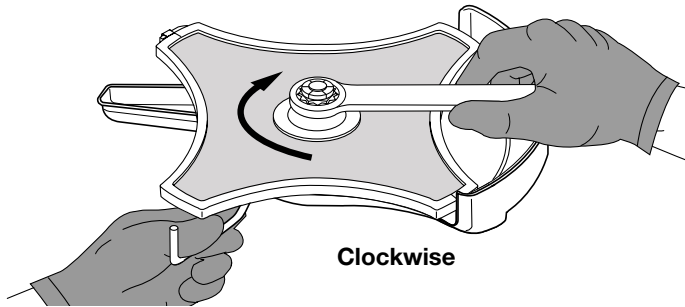

Fig. 15
- While holding the locking rod, loosen the nut on the blade by turning it clockwise with a 5/8 inch closed-end or socket wrench (Fig. 15).